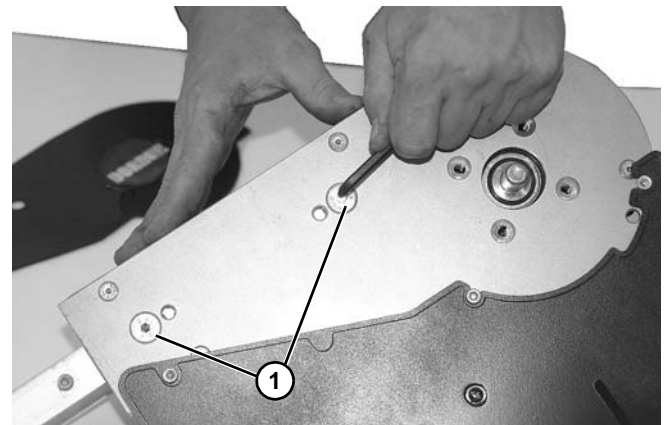

Figure 50
4. Remove two socket head screws (**Figure 50, item 1**) on side of drive spindle.